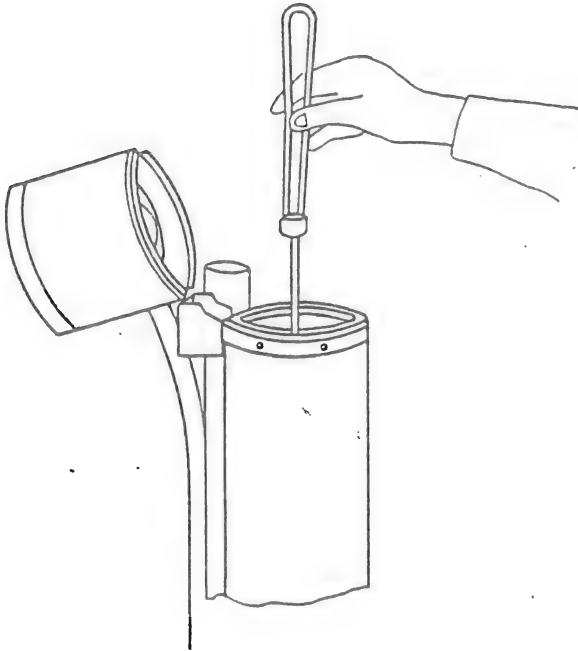
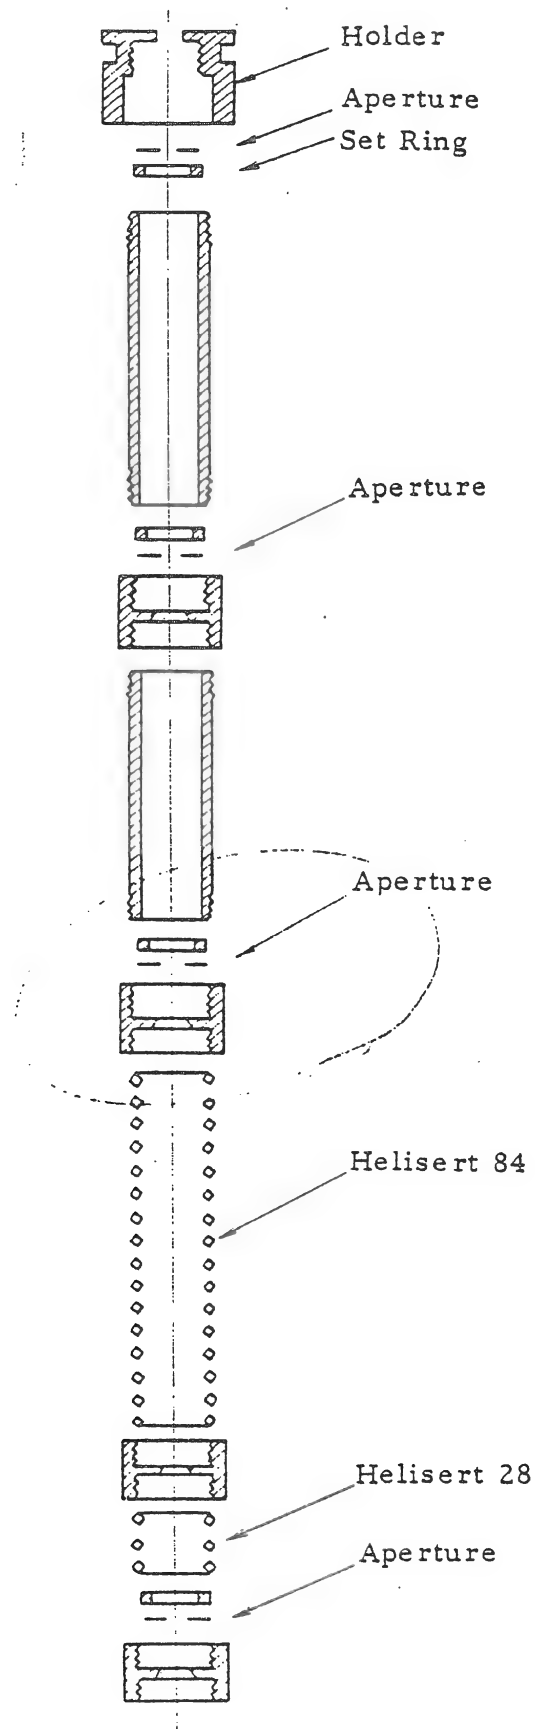

Fig. 4-5
Fig. 4-6 Fixed Aperture Ass'y
- (1) After detaching the front cover from the column, make sure that the evacuating sequence auto/manual switch is at auto.
- (2) Run cooling water to the oil diffusion pump.
- (3) Turn on the switch on the power distribution board.
- (4) Turn on the EVAC POWER switch on the front panel of the column.
- (5) Depress the EVAC pushbutton.
- (6) After 4 ~ 5 minutes, set the EVAC pushbutton to AIR.
- (7) After vacuum leak of the column, open the electron gun assembly as shown in Fig. 4-5, and insert the fixed condenser aperture. For the S-450/S-430 fixed condenser aperture, see Fig. 4-6.
Two condenser lenses are substantially unified and connected in series, thus requiring one power supply only. The resistance value of the condenser lenses connected in series is about 24 Ω . Inserted inside the lens magnetic yoke is a self-cleaning aperture and a helisert spring (Fig. 4-5, 4-6), which serve to prevent contamination of the magnetic yoke and electron beam path due to scattering of the beam. The aperture (1 mm ID x 6 mm OD x 10 μ m thickness) is made of molybdenum.